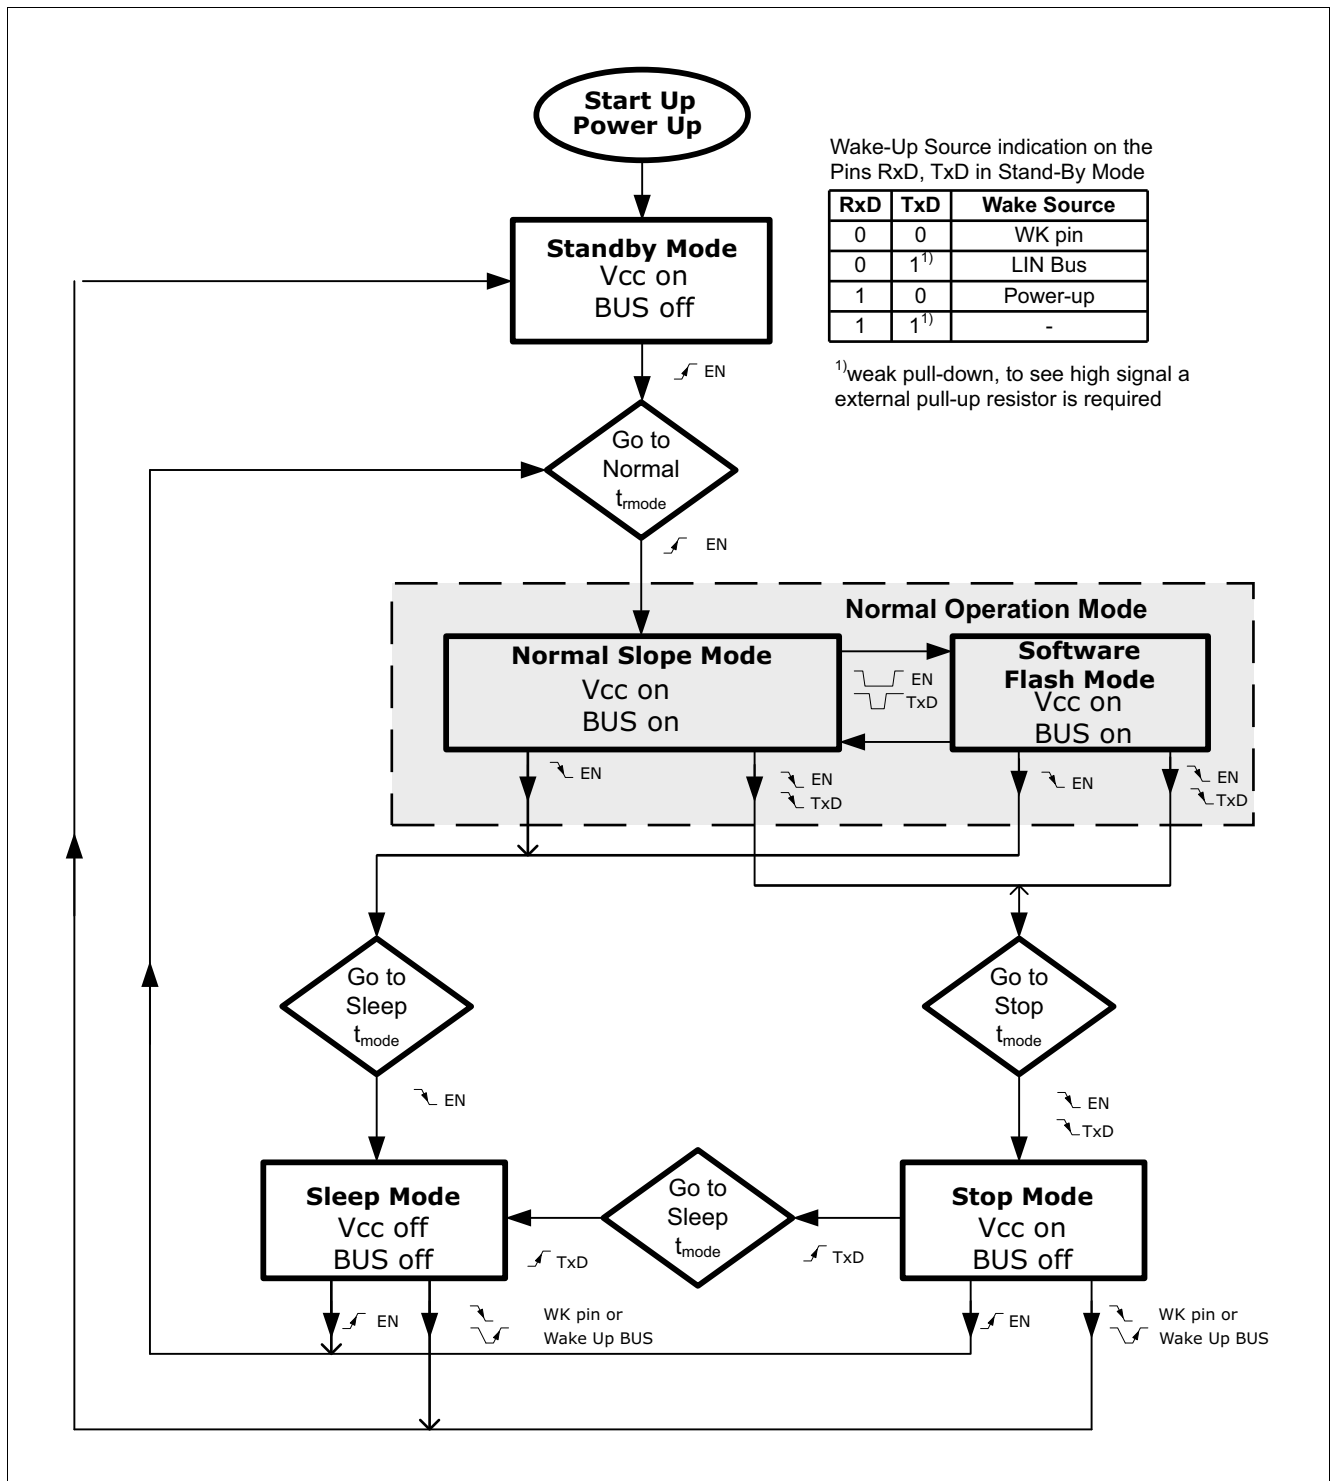
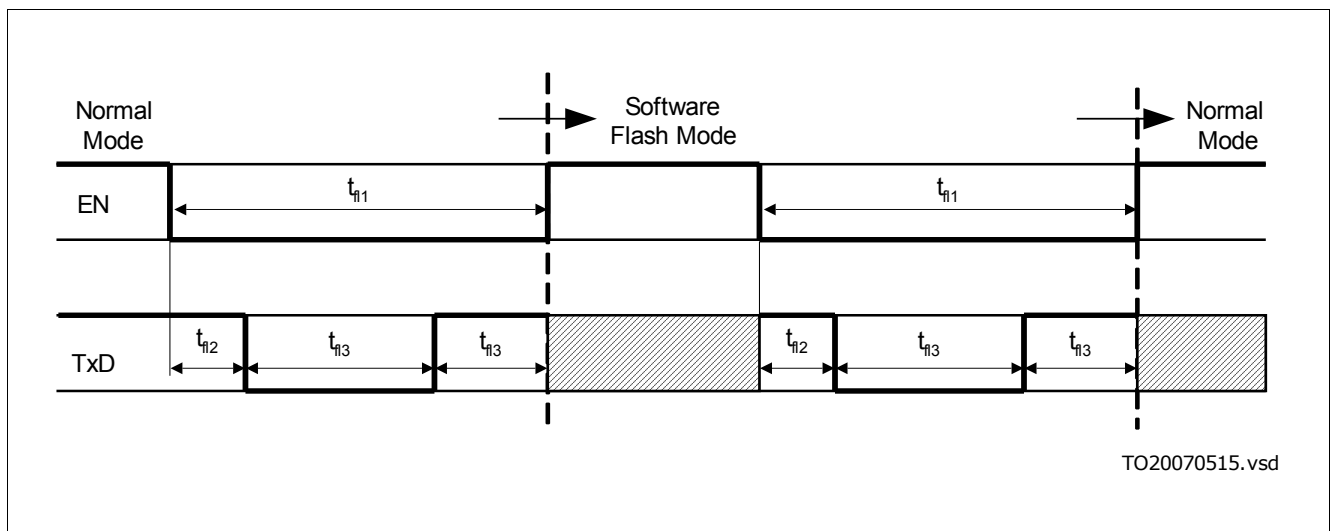

Figure 3 Operation Mode State Diagram
Figure 5 Software Flash Mode
The Normal Operation mode contains 2 sub-operation modes, which differentiate by the slew rate control of the LIN Bus signal (see Figure 3).
- The EN input pin is active. By setting the EN pin to HIGH the TLE8458Gx changes the operation mode to Normal Operation Mode (see Figure 3).
The Software Flash Mode can only be entered from Normal Slope Mode (see Figure 3). By setting the EN pin to low for the time t_{fl1} and by generating a falling and a rising edge at the TxD pin with the time t_{fl2} and t_{fl3} during the low phase of the EN pin, the TLE8458Gx changes to the Software Flash Mode (see Figure 5). Vice versa, the TLE8458Gx changes from Software Flash Mode to Normal Slope Mode by applying the same sequence to the EN pin and the TxD pin.